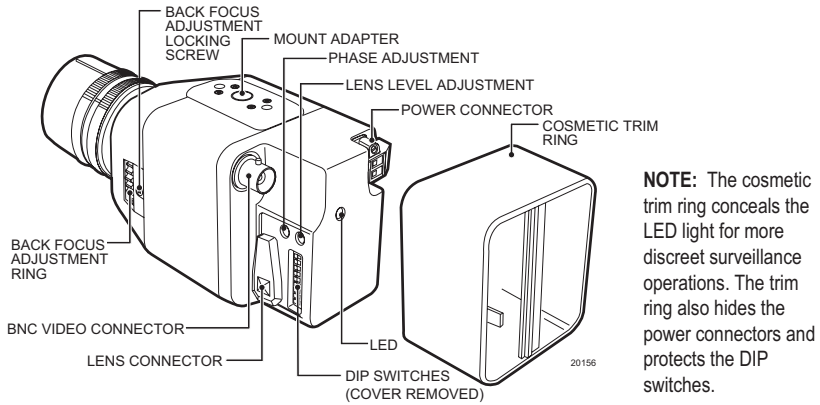

Figure 1. Camera Layout
2. Remove the cosmetic trim ring from the back of the camera (refer to Figure 1). Set the lens mode selector switch on the side of the camera to AIV (auto iris video drive lens) or AID (auto iris DC drive lens). Refer to the *Switch Settings* section. Switch setting is determined by the type of lens used.
The camera is designed to operate from a 12 VDC or 24 VAC power supply. The power supply connections are shown in Figure 1. The LED on the back panel of the camera indicates that power is connected. Use only a Class 2 isolated power supply. See Specifications for power consumption.
1. Remove the cosmetic trim ring from the camera (refer to Figure 1). Thread cabling through the rear cover.
Set the lens mode selector switch to AID (default setting). Switch the ESC and AGC OFF. Use an appropriate screwdriver to turn the lens level potentiometer (refer to Figure 1) fully clockwise. Next, slowly adjust the potentiometer counterclockwise until the optimum picture is obtained (video output level of 1V peak-to-peak). To focus, fully open the iris by covering the lens with a suitable neutral density (ND\*) filter. Select the scene to be viewed. If the viewed scene is 6.5 feet (2 m) away or farther, set the lens focus to infinity (far). Use the back focus adjustment ring (refer to the Back Focus Adjustment section) and focus on the selected scene. Remove the ND filter and set the lens focus as required. When finished, switch the ESC and AGC ON.